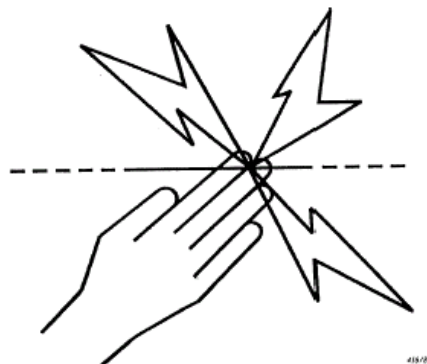

Figure 5 – Warning plate symbol
1. the symbol of Figure 5, or
The keypad terminals on all units in the group are linked, see Figure 5. Since only one unit needs to power the keypad 3 wires are linked from one unit to the keypad (optional) and 2 wires to every other unit in the group. Do not connect the + lines between PTE1000's as this could result in some strange behaviour and possibly damage. Note the connections can be a star or daisy chain or any mixture. If required the bus can be split using an opto isolator module, this is necessary in noisy (EMF) environments or if the bus is longer than 100m. It is also possible for a PC to be added to the group using a keypad to RS232 bridge.